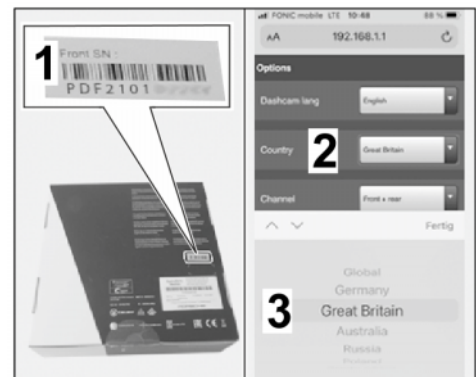

Figure 20
- 5.3.2 Select country (⇒ *Figure 20*).